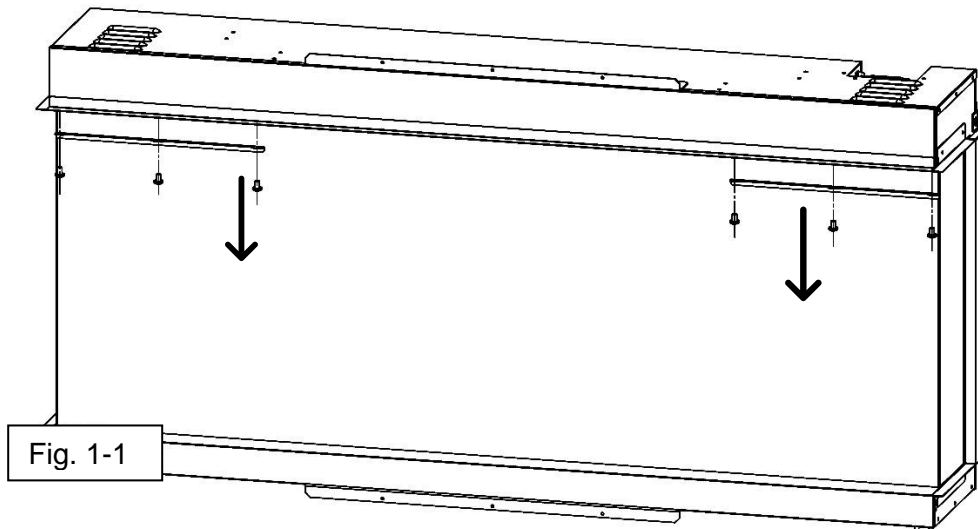

Fig. 1-1
- With one hand on the front glass to prevent it from falling, remove the six screws (three per side) and two brackets (one per side) from the underside of the viewing area of the fireplace. (Fig. 1-1). Set the screws and brackets aside.